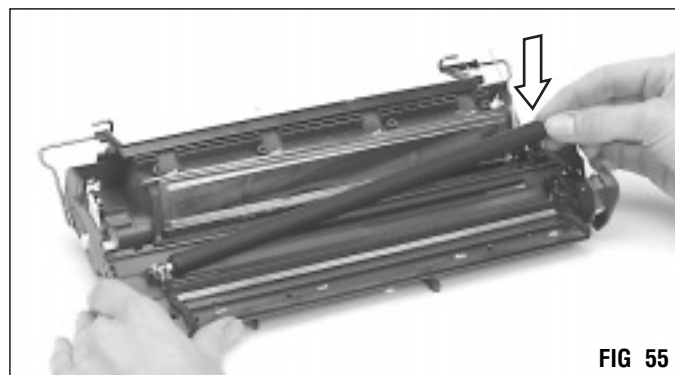

FIG 55
4. **Install the PCR. (FIG 55)**